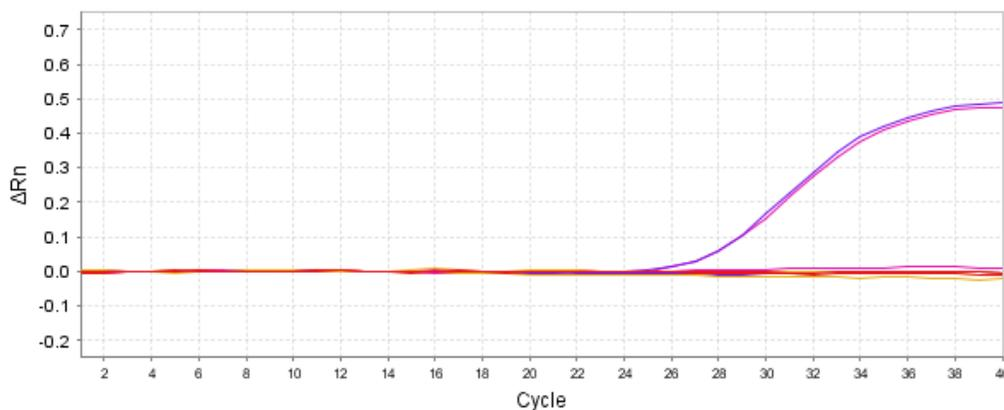

Figure 15 Example Amplification Plot for negative control and blocked IPC
- View the amplification plots for the negative controls (see Figure 15 and “Optimize display of negative controls in the Amplification Plot” on page 35).